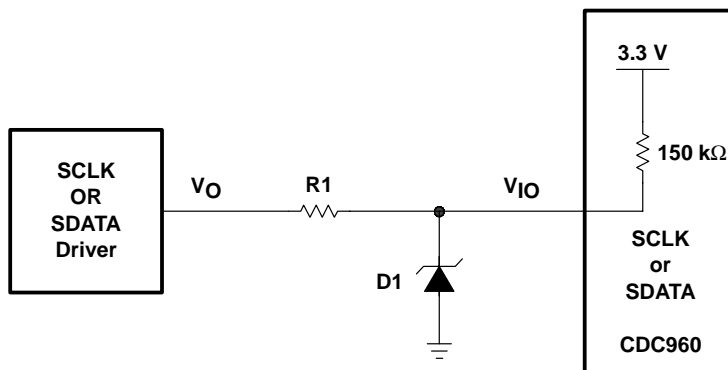
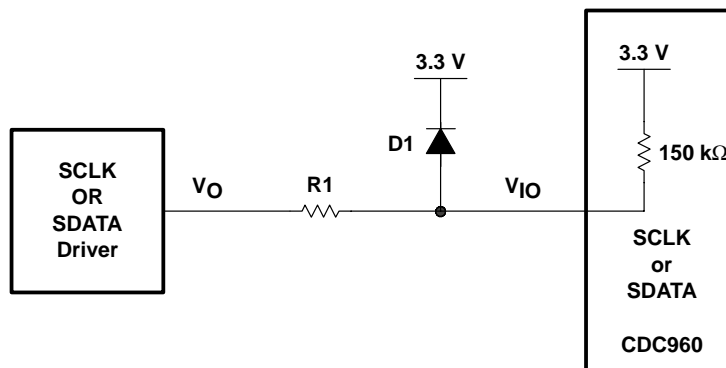

Figure 1. SCLK SDATA Connection to 5-V SMBus Using Zener Diode
Figure 2. SCLK SDATA Connection to 5-V SMBus Using Clamping Diode to V_{DD}
Zener diode D1 in Figure 1 is chosen such that the Zener voltage (V_{ZK}) cannot exceed 300 mV above V_{DD} of the CDC960. The minimum value of V_{ZK} must be greater than 2.1 V to meet minimum requirement for V_{IH} of the CDC960. The value of $R1$ is chosen to satisfy requirements both for I_{OH} of the driver of SCLK and SDATA and for V_{OL} and I_{OL} of SDATA of CDC960.
Diode D1 in Figure 2 should have a small forward voltage (V_F). Ideally, we want V_F to be less than 300 mV to meet the input voltage requirement of the CDC960. International IOR Rectifier has a device (part number 10BQ015) with maximum V_F of 350 mV at 1.0 A. Using the 10BQ015 with $R1 = 150\ \Omega$, the worst-case I_{OH} is calculated using equation (4).
When using the configuration in Figure 2, the power supply is required to have a capability of sinking current. The total amount of sinking current is dependent on the overall load connected to that power supply.
Using the above interface circuitry with a high-impedance source, the available high-level voltage on the SMBus is limited to about (V_{zk}) for the configuration in Figure 1 and $(V_{DD}(\text{CDC960}) + V_F(D1))$ for the configuration in Figure 2. One has to choose which option best fits a given SMBus configuration.
Actually, the typical SMBus configuration is an open-drain configuration with pullup resistors to the corresponding power supply. It does not require a 5-V SMBus driver that has a low impedance to drive the CDC960 SMBus ports with its additional components as shown in Figure 1 and Figure 2. The external components are not needed if the pullup resistors of the SMBus are directly connected to a voltage equal to the supply voltage of the CDC960 (typically 3.3 V). This pullup resistor connection is strongly recommended.